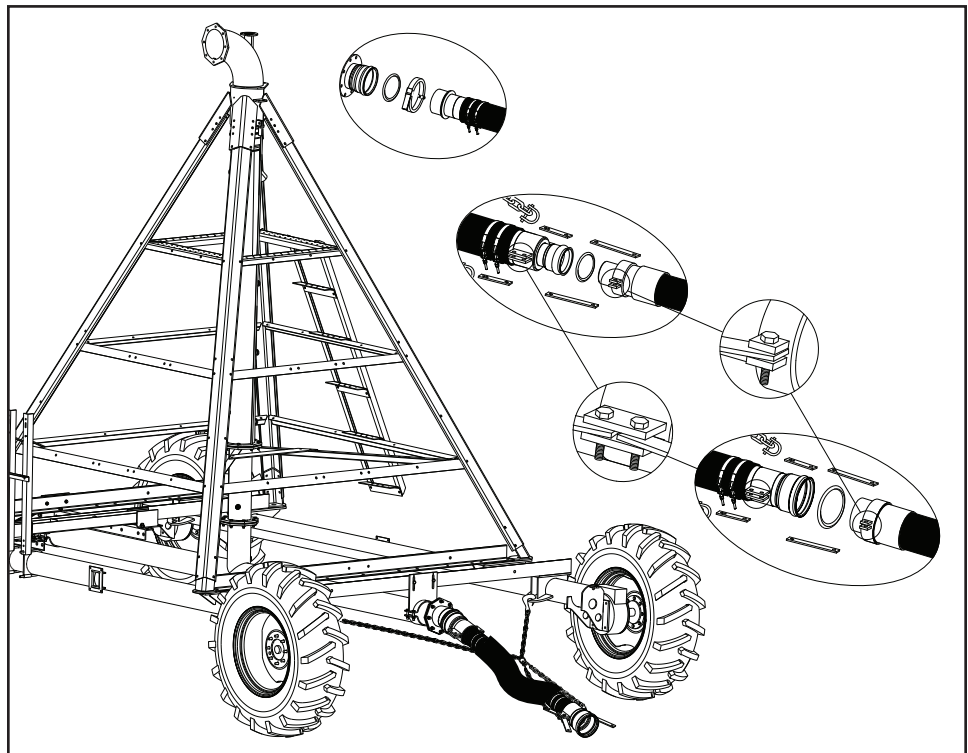

Figure 51-2 Center Inlet Hose Couplers, Soft hose and Chains
- The center inlet uses soft hose on the inlet end of the hose. See figure 51-2.
- Soft hose requires the use of chains to pull the poly hose. See figure 51-2.